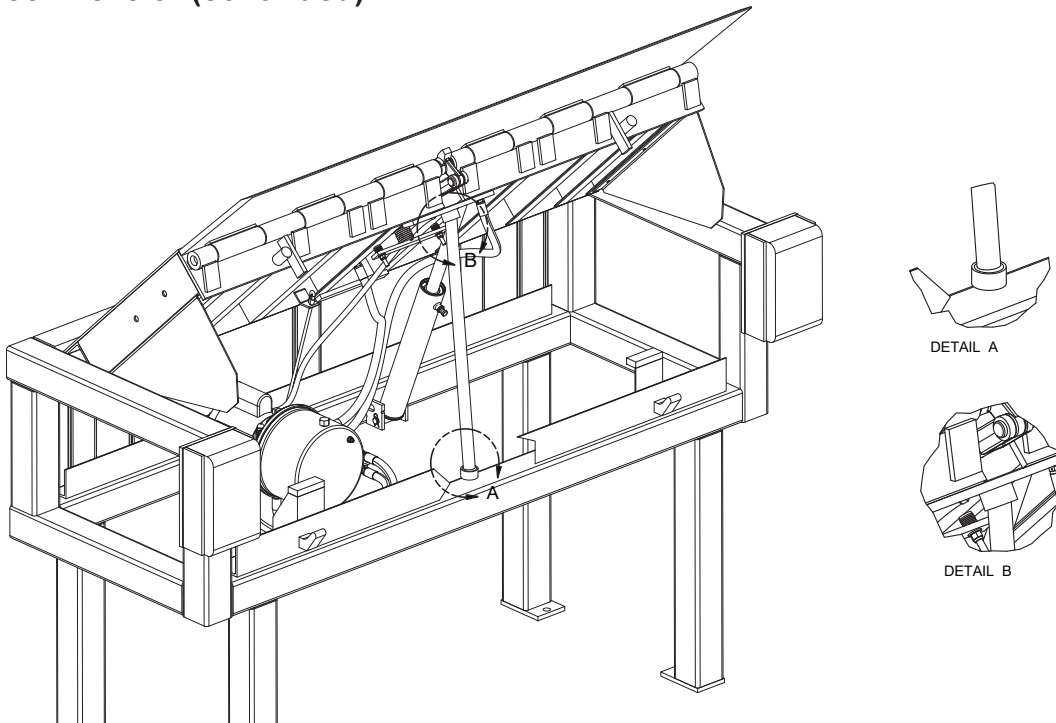

Figure 12
b. Position the maintenance prop in the service (upright) position. Ensure that the maintenance prop is properly inserted into both the platform and frame receivers as shown in **Figure 12**.
Make sure the platform is properly supported in the raised position (as shown in **Figure 12**) before attempting to finish weld the shims.